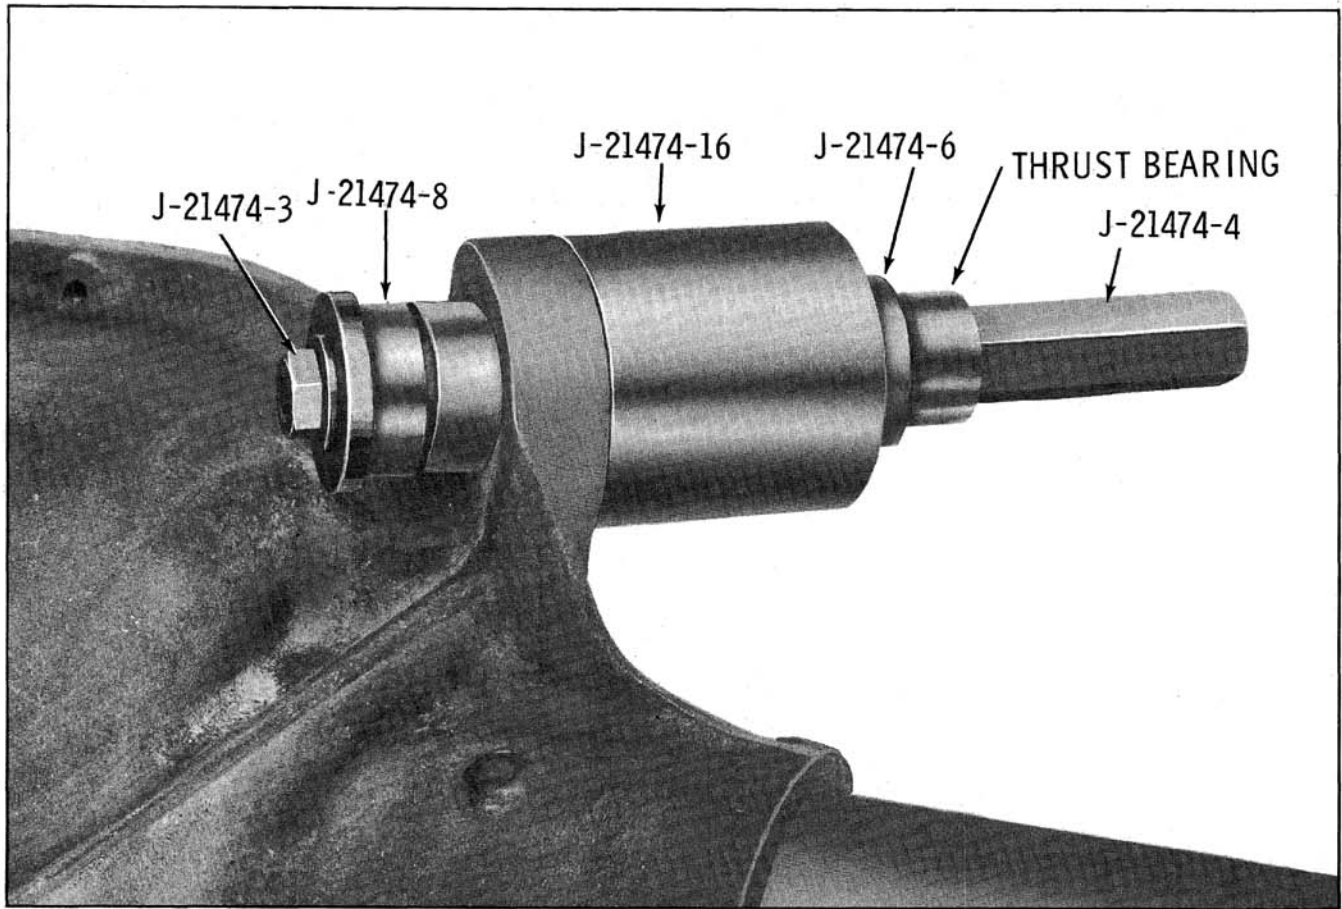

Fig. 9-38 Removing Upper Arm Rear Bushing
3. Position tools as shown in Fig. 9-38 and remove bushing.